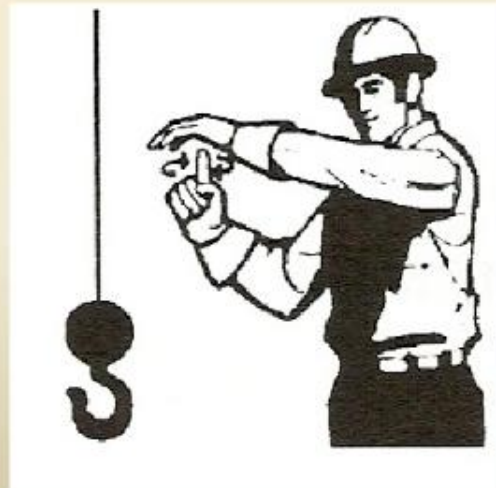

Figure 8 Hoist Slowly.
2. Figure 8 shows the signal for "HOIST SLOWLY".